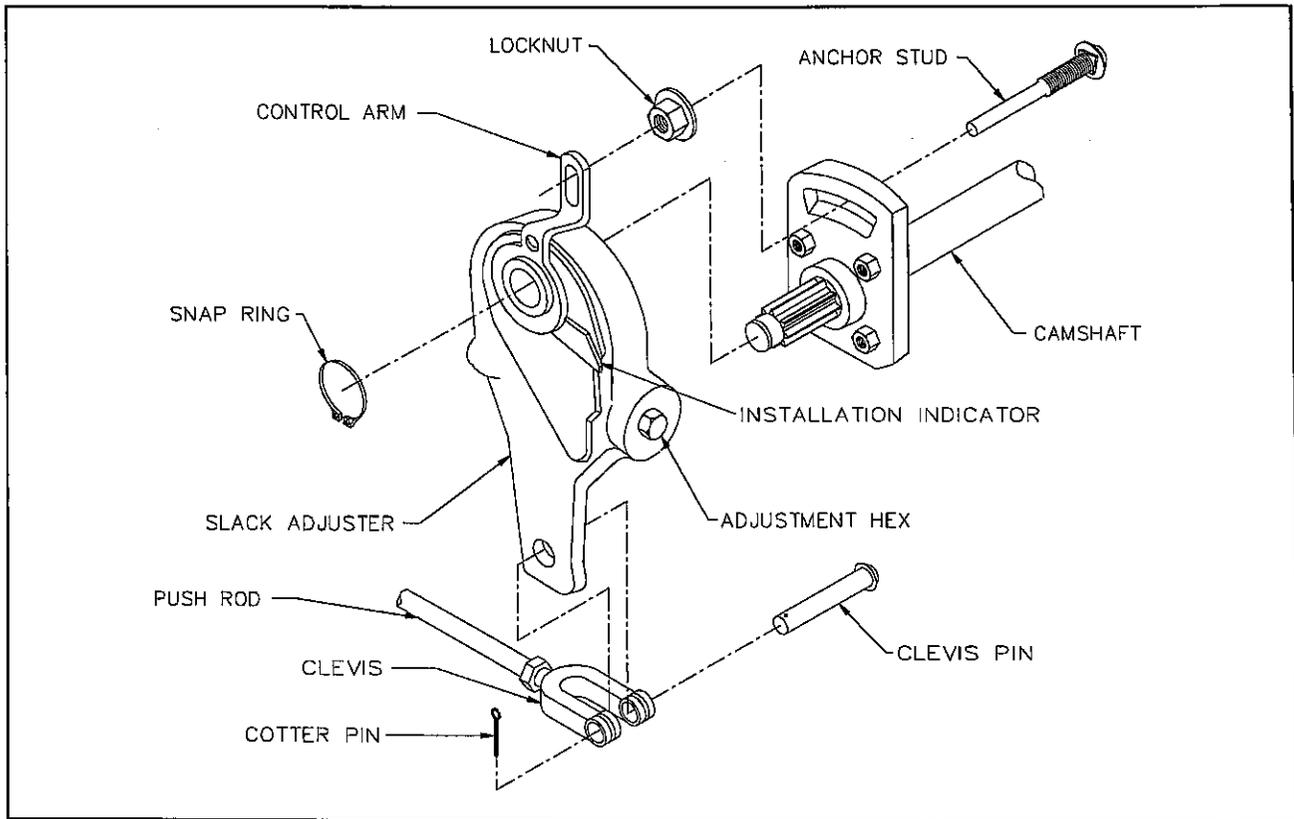

Figure 4-9 Slack Adjuster (Haldex)
4. Disconnect the slack adjuster from the connecting rod by removing the clevis pin (See Figure 4-9).
3. Remount the brake unit on the axle brackets and reconnect the air service hoses and the slack adjuster connecting rod (See Figure 4-9).
The brake assemblies should be inspected and adjusted every 2,000 miles or monthly. Examine the brake linings visually to locate the lining showing the greatest amount of wear. The wheel and drum should be removed and the linings replaced if the thinnest portion of the lining is $\frac{3}{8}$ in. (9.5 mm) or less. Do not allow the linings to wear thin enough that the lining rivet contacts the drum. (See Figure 4-9).
a. Operational Check (See Figure 4-9)
c. Replacing Haldex Slack Adjuster (See Figure 4-9)